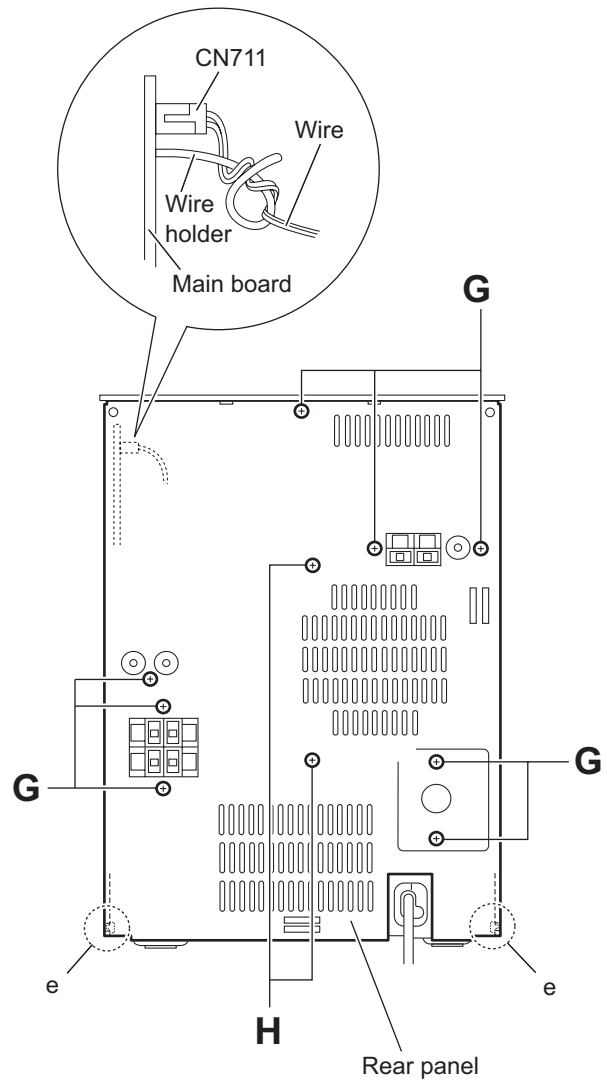

Fig.14
3.1.6 Removing the rear panel (See Fig.14)
3.1.7 Removing the fan (See Figs.14 and 15)
- (1) From the outside of the rear panel, remove the two screws **H** attaching the fan bracket to the rear panel. (See Fig.14.)